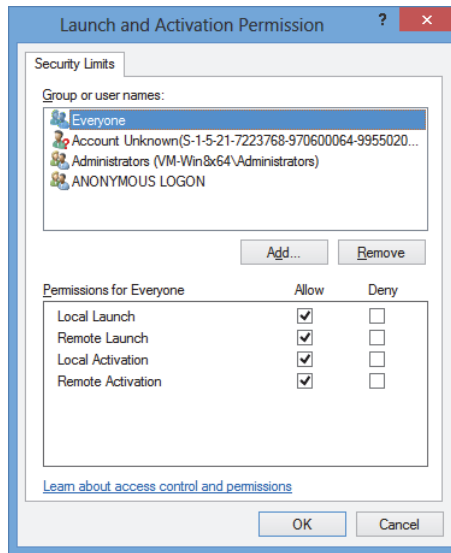

Figure 2-15 The Launch and Activation Permission dialog box
14. In the **Launch and Activation Permission** dialog box, click **Add** (see Figure 2-15 on page 42).